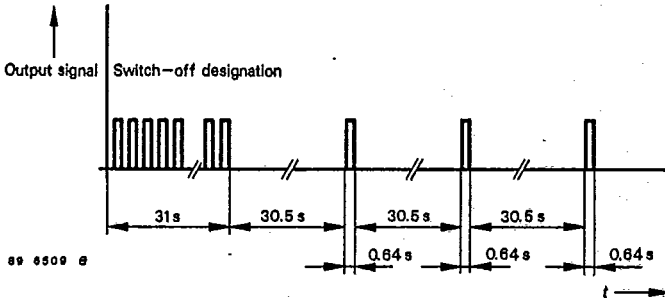

Fig. 7: Switch-off designation
Output signal is generated for a duration of 31 s, a rectangular pulse of 640 ms pulse- and interruption (pause) time. Afterwards it goes to the sequence as mentioned under a) (Fig. 7).
- b) Switch-off designation see U 2605 B, Fig. 7:
- b) Switch-off designation, see U 2606 B, Fig. 7